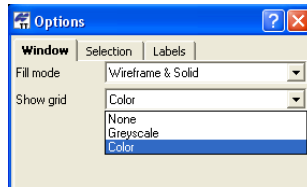

Figure 4-34. Hide/Display a Grid in 3D View
- To hide or display the grid in 3D View, right-click on the mouse, select *Option* in the pop-up menu and choose the desired type from the drop-down list of the *Show Grid* field on the *Window* tab (Figure 4-34).